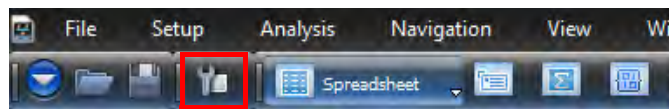
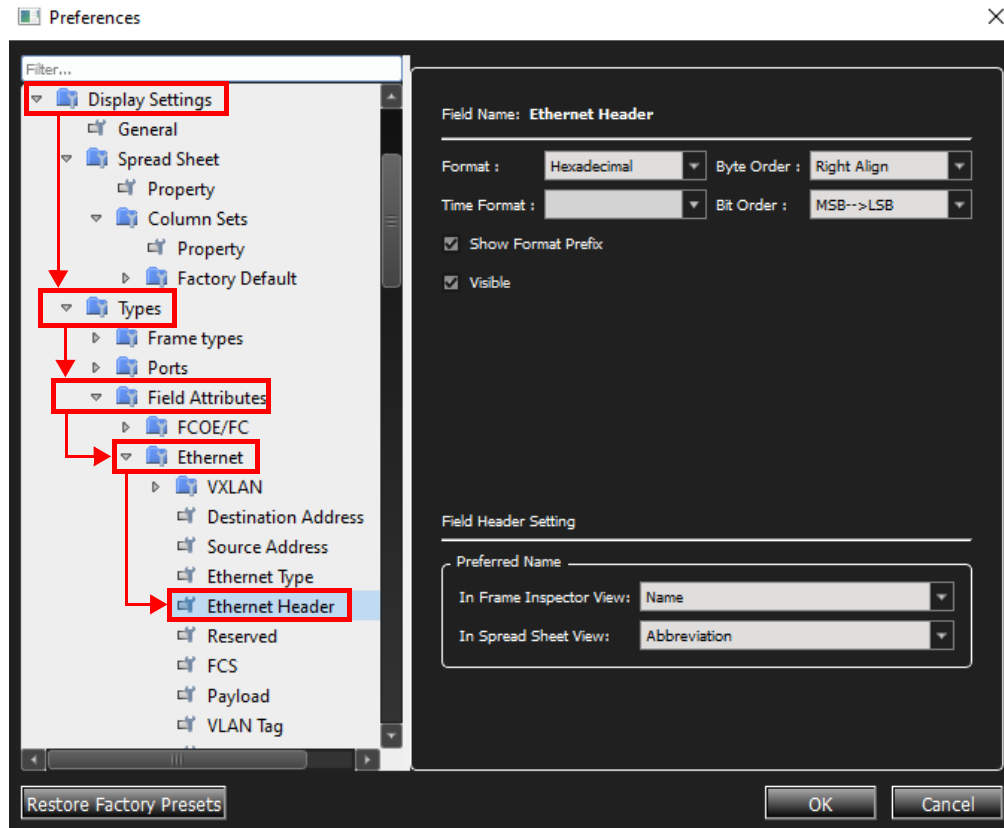

Figure 3.78: Select Preferences for Spreadsheet View
Figure 3.79: Preferences Dialog Window – Spreadsheet View
1. From Spreadsheet View, click the preferences icon  to the left of the Spreadsheet View button in the main tool bar (Figure 3.78). The Preferences dialog window opens (Figure 3.79).
2. If needed, expand the filter. For example, **Display Settings** → **Types** → **Field Attributes** → **Ethernet** (Figure 3.79).